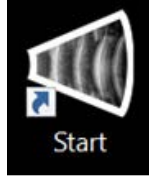

Figure 30: Start Icon
- ① **Power 'On' System:** By pressing the front panel power switch located on the bottom right side of the unit's front panel.
- ② **Starting Application:** From Windows desktop, double click on the 'Start' icon (Figure 30).